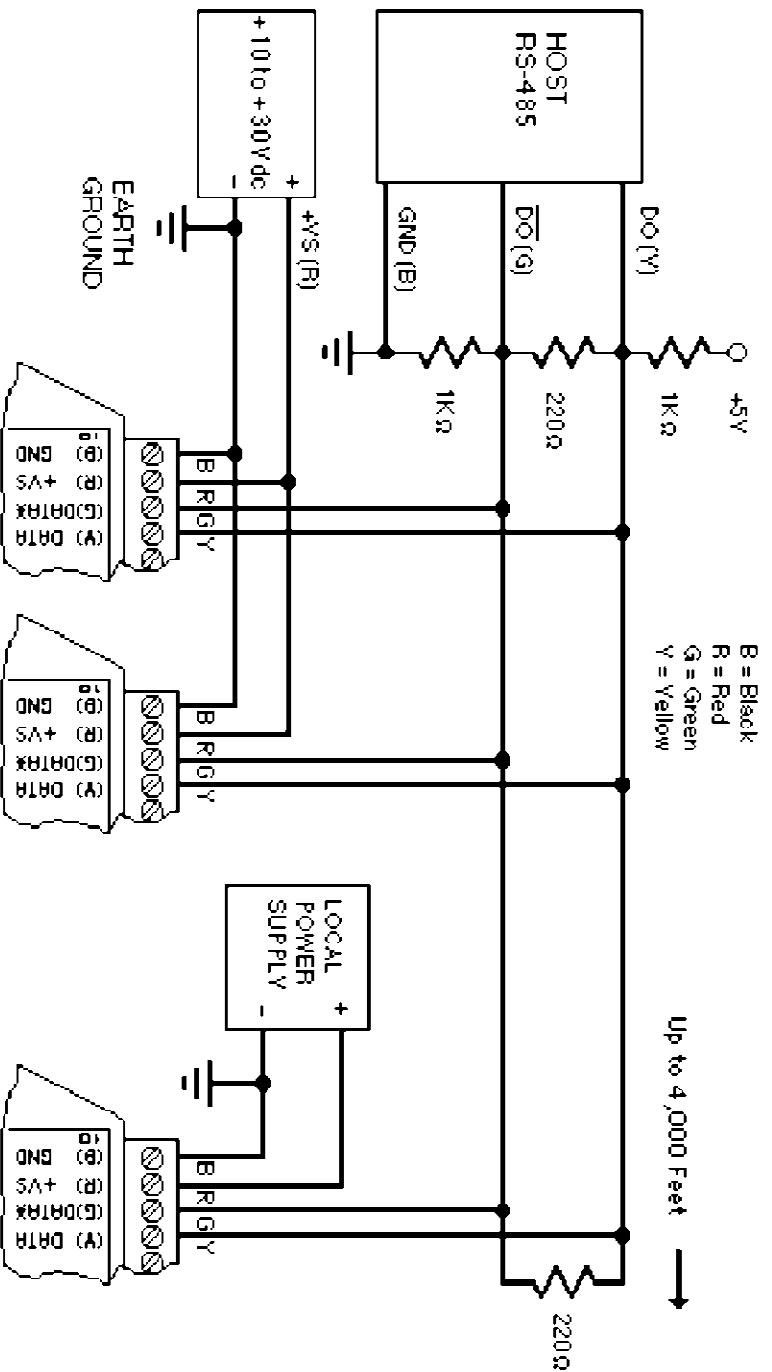

Figure 3.2 RS-485 Network.
Figure 3.2 illustrates the wiring required for multiple-module RS-485 system. Notice that every module has a direct connection to the host system. Any number of modules may be unplugged without affecting the remaining modules. Each module must be setup with a unique address and the addresses can be in any order. All RS-485 modules must be setup for no echo to avoid bus conflicts (see Setup). Also note that the connector pins on each module are labeled with notations (B), (R), (G), and (Y). This designates the colors used on standard 4-wire telephone cable:
During normal operation, there are periods of time where all RS-485 drivers are off and the communications lines are in an 'idle' high impedance condition. During this condition, the lines are susceptible to noise pickup which may be interpreted as random characters on the communications line. To prevent noise pickup, all RS-485 systems should incorporate 1K ohm bias resistors as shown in Figure 3.2. The resistors will maintain the data lines in a 'mark' condition when all drivers are off.